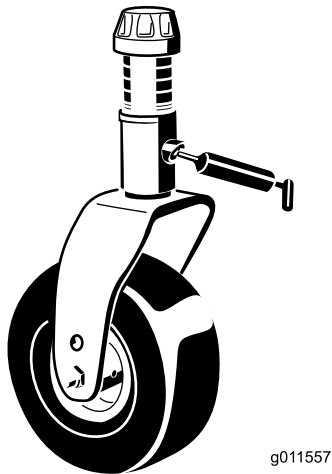

Figure 19
- Castor fork shaft bushings (4)(Figure 19)